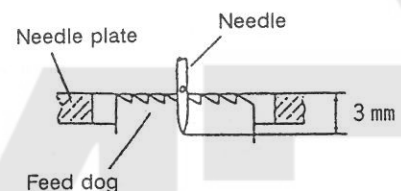

Fig. 24
- (1) The position for the standard feed timing is where the needle tip is located approximately 3 mm below the top surface of needle plate when the feed dog is sunk by turning the pulley and the teeth of feed dog align with the upper surface of needle plate. See Fig. 24.